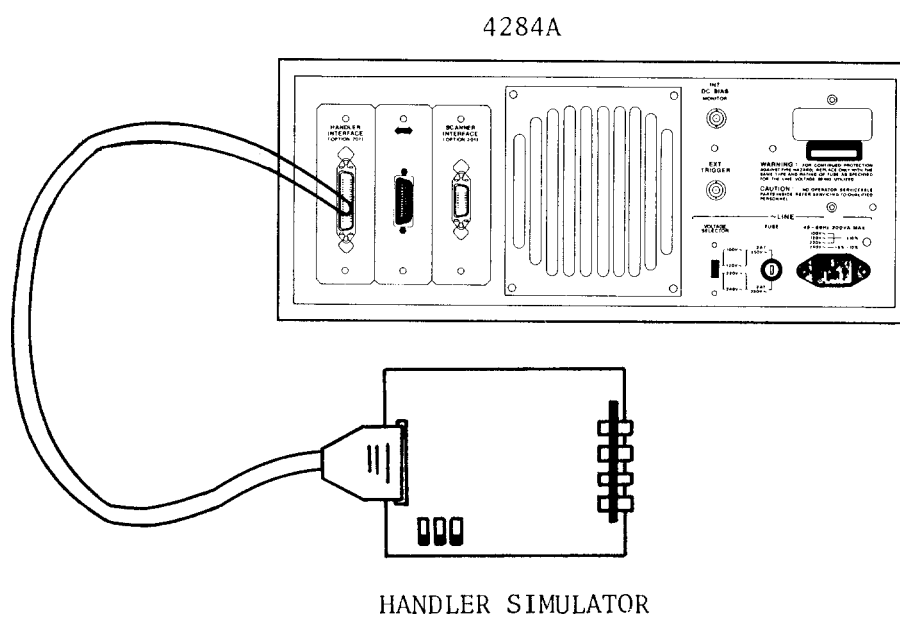

Figure 10-15. Handler Interface Function Test Set Up
17. Confirm that the LEDs on the handler simulator turn ON in accordance with the 4284A's output signals displayed on the LCD. The LEDs turns ON light in the sequence shown in Figure 10-15.